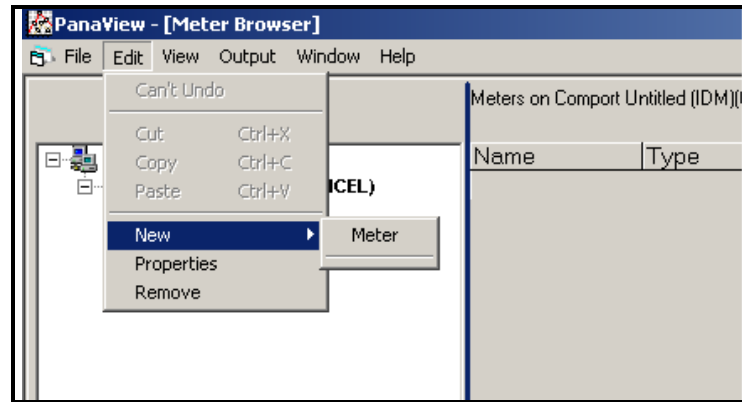

Figure 4: "New" Option in the "Edit" Menu
2. Click on the "New" option in the "Edit" menu (see Figure 4 below).